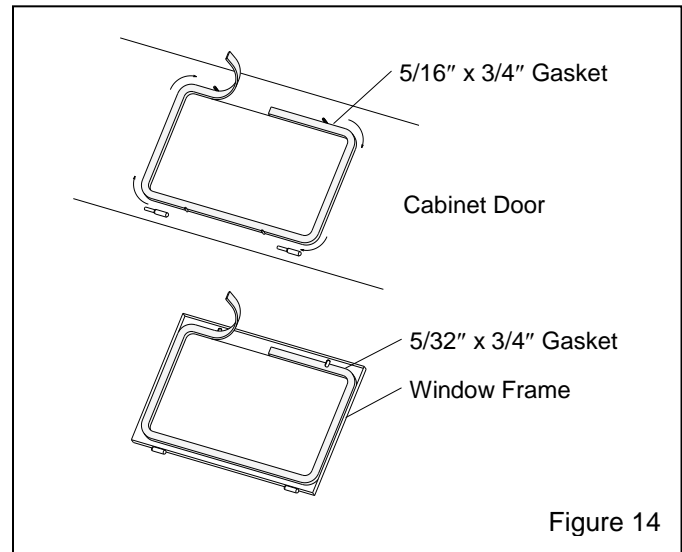

Figure 14
**9.5 Window-Gasket Replacement – Figure 14**
**9.5.4** Peel a short section of adhesive backing from the 5/16"-thick strip gasket and adhere the gasket to the center of the top edge of the window opening, as shown in Figure 14. Peel additional backing as needed and work the strip around the radius of each corner, pressing it firmly to bond. Trim the gasket to fit and compress the ends to seal.